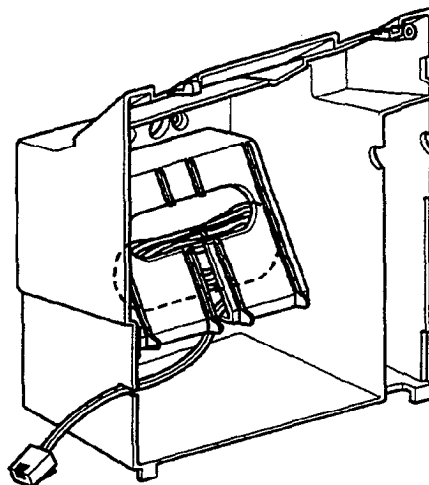

Figure 4-29 Leading the Line Cord out of the WMU-U Unit
4. Place the bundled line cord in the space between the WMU-U Unit and the wall. Lead the line cord out through the slits as shown in Figure 4-29 Leading the Line Cord out of the WMU-U Unit.